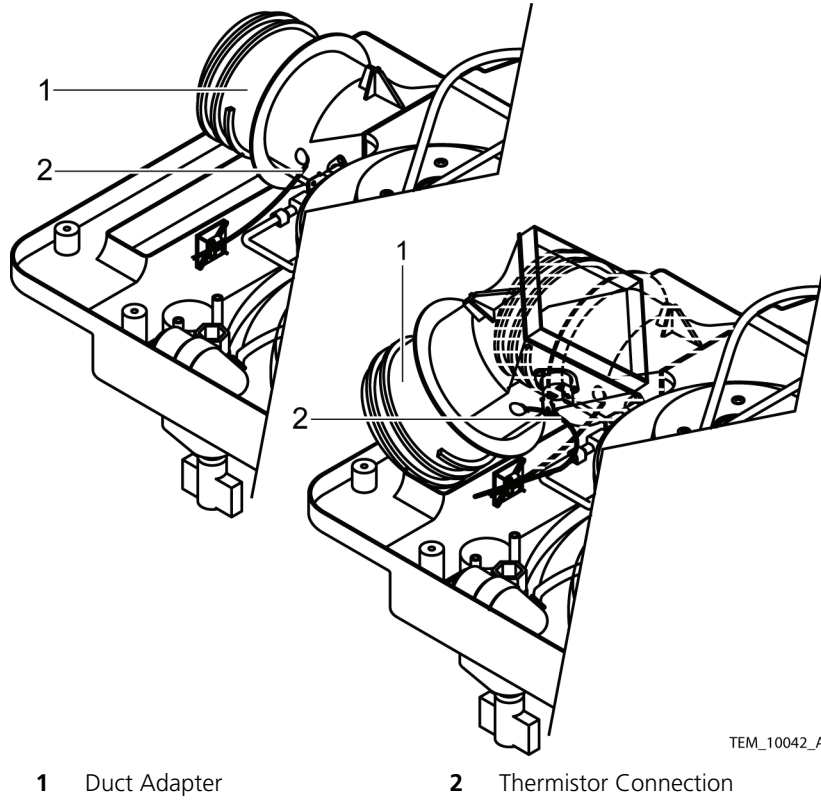

Figure 42. Duct Adapter Placement
7. Carefully lift the duct adapter and lay the duct adapter on the rear cover handle. See Figure 42.